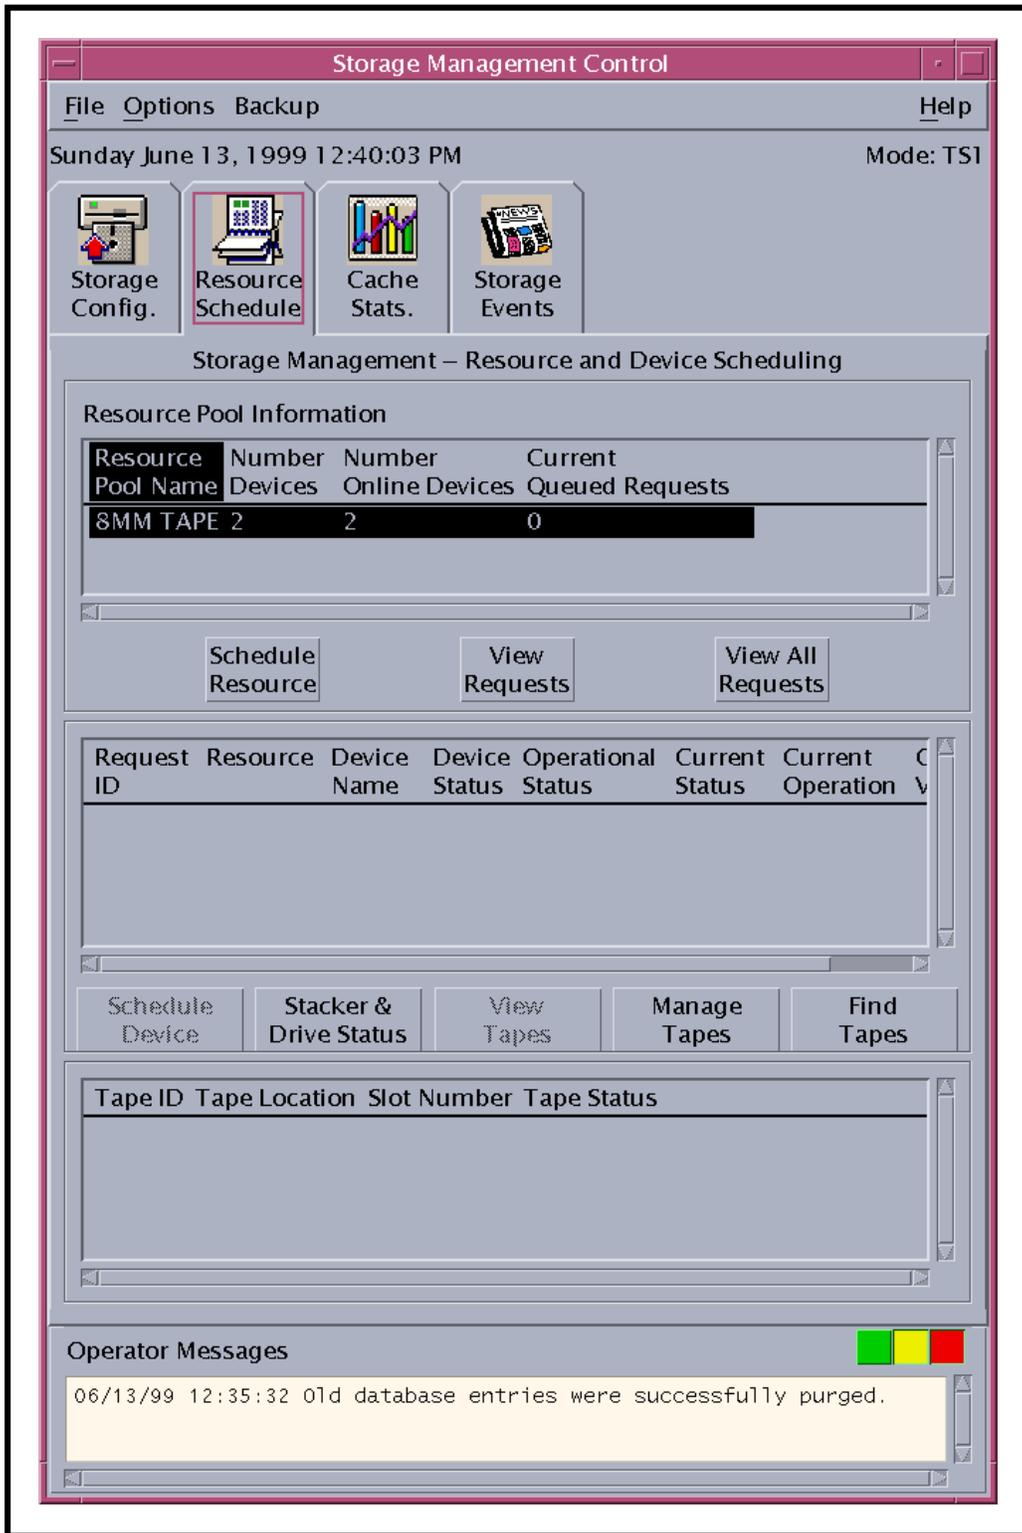
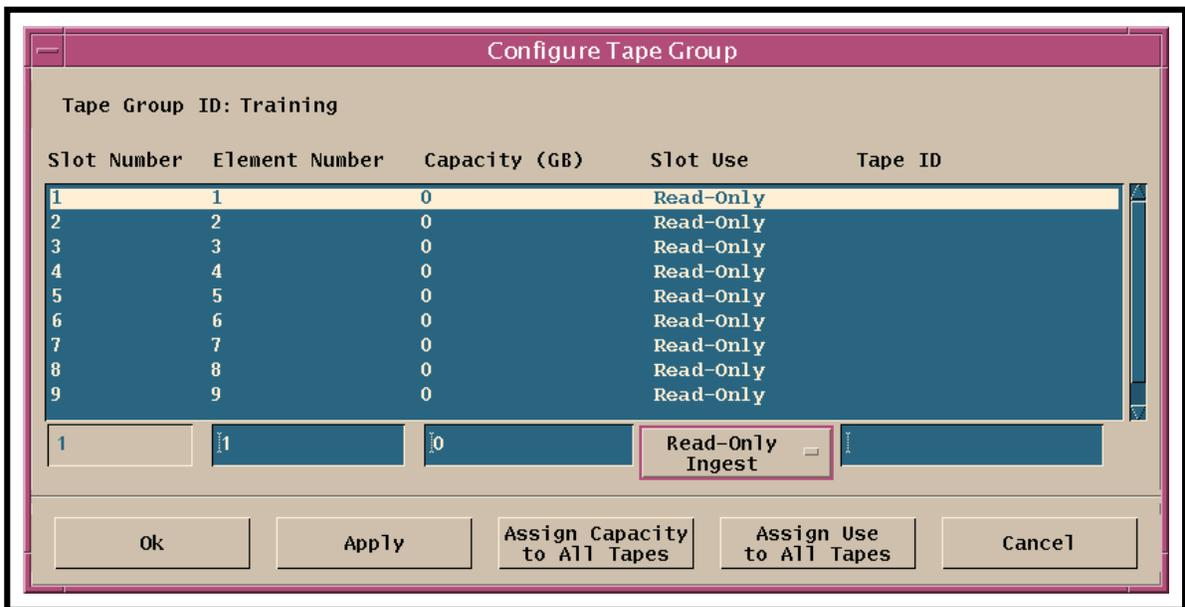

Figure 14. Resource Schedule Tab (Storage Management Control GUI)
Figure 17. Configure Tape Group Window
- The **Storage Management Control GUI Resource Schedule** tab (Figure 14) is displayed.
- The **Configure Tape Group** window (Figure 17) is displayed.
- Capacity (GB)
- The **Manage Tape Groups** window (Figure 14) is displayed.